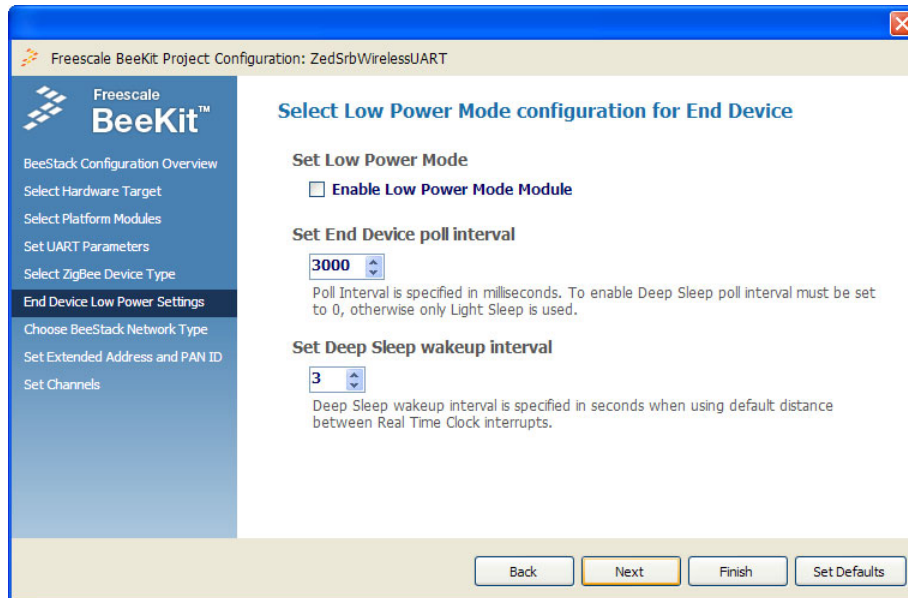

Figure 5-13. Select Low Power Mode
4. The End Device Low Power Settings window appears as shown in Figure 5-13. Leave all settings at their default values as shown in Figure 5-13.